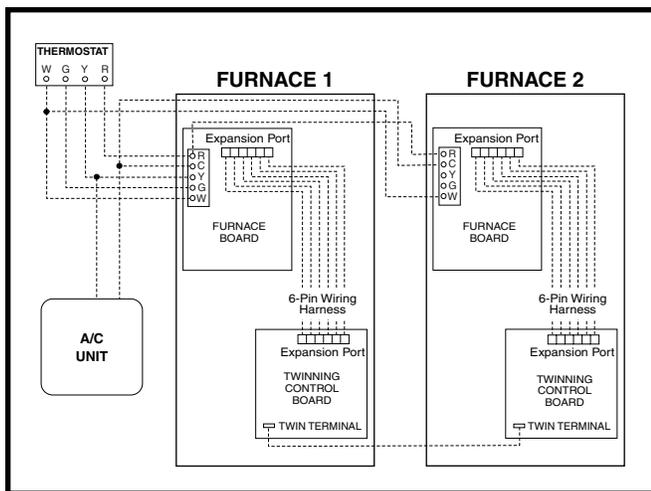

Figure 16. Single Stage Twinning
If both single stage furnaces are upgraded to the fixed speed iSEER™ blower, the twin terminal on the blower control boards (Figure 16) may be used to twin the single stage furnaces only if the following criteria are met:
For twinning of single stage furnaces equipped with fixed speed iSEER™ blowers, refer to Figure 16 and the following instructions:
- Refer to Figure 16, \(page 22\) for the remaining thermostat connections. The **C** connection must be made between the twinned furnaces to ensure proper performance.